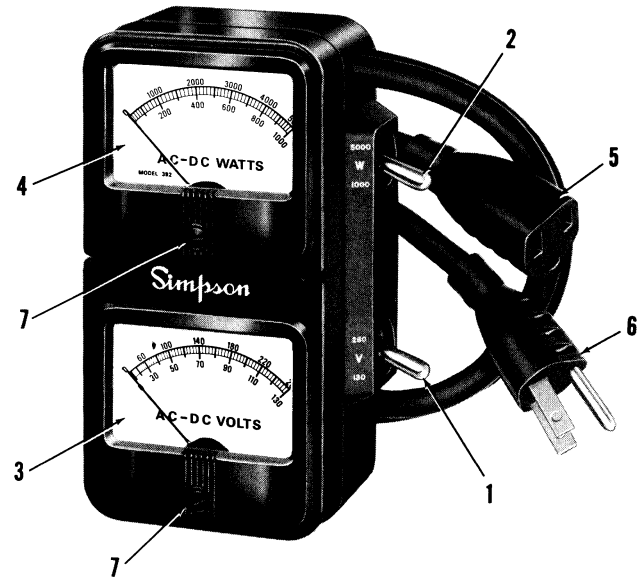

Figure 3-1. Controls, Connectors and Indicators
All operating controls, connectors and indicators are shown in Figure 3-1. Become thoroughly familiar with each before operating the Instrument for the first time.
NOTE: The item call-outs in Figure 3-1, correspond with the numerical order of the items listed in Table 3-1.
- a. Before using the Model 392, be sure that both meters read zero when there is no power applied and when the Instrument is in its operating position. There is a small zero setting screw in the face of each meter just below its dial (see Figure 3-1).